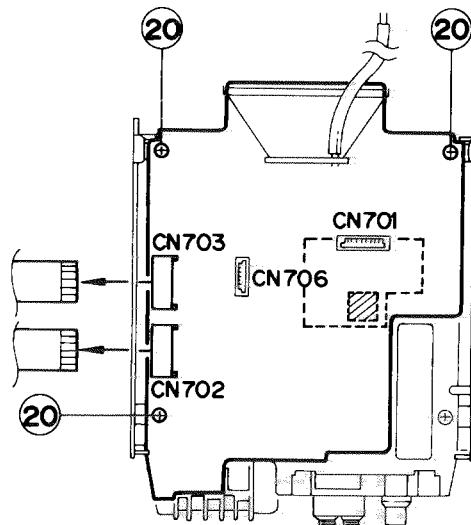

Fig. 7 – 15
■ Tuner P.C. board(Fig. 7 – 16)
1. Remove the two screws (14) retaining the tuner P.C. board from the chassis.